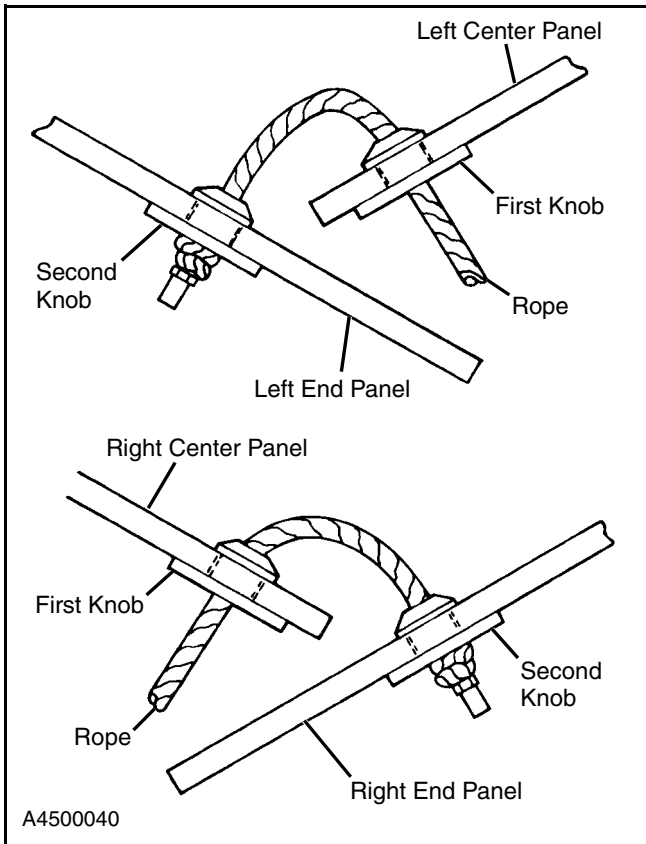

Figure 25
9. Insert the end of the rope without the knot through the wide face of the first knob. To make tying the second knot easier, the first knob should be the one under the panel overlap. Run the rope through the knob beside it from the hinge side and pull the rope tight. (See Figure 25.)